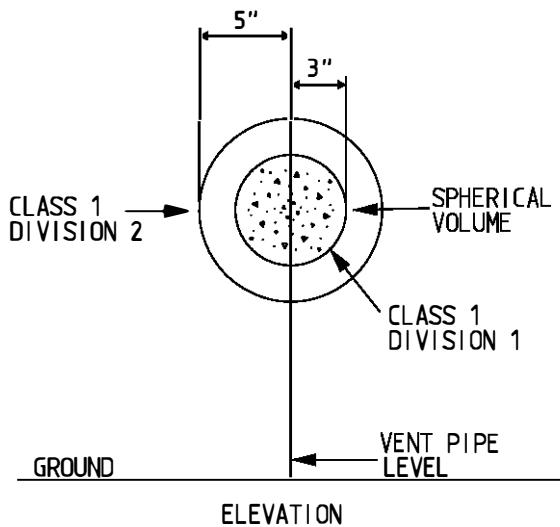

FIGURE 3
1. UPWARD DISCHARGE - WITHIN A SPHERICAL VOLUME OF RADIUS 5 FEET MEASURED FROM THE POINT OF DISCHARGE. REFER TO FIG. 3 SHT 3.